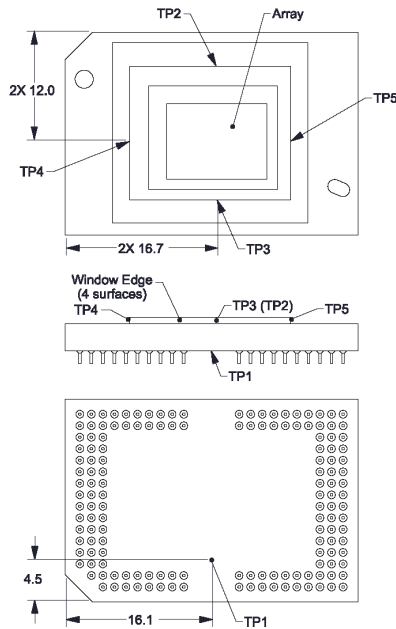

Figure 16. Thermal Test Point Location
Achieving optimal DMD performance requires proper management of the maximum DMD case temperature, the maximum temperature of any individual micromirror in the active array, the maximum temperature of the window aperture, and the temperature gradient between case temperature and the predicted micromirror array temperature. (see Figure 16).
The DMD is designed to conduct absorbed and dissipated heat to the back of the Series 450 package where it can be removed by an appropriate heat sink. The heat sink and cooling system must be capable of maintaining the package within the specified operational temperatures, refer to Figure 16. The total heat load on the DMD is typically driven by the incident light absorbed by the active area; although other contributions include light energy absorbed by the window aperture and electrical power dissipation of the array.
The temperature of the DMD case can be measured directly. For consistency, Thermal Test Point locations TP1 - TP5 are defined, as shown in Figure 16.
Micromirror array temperature cannot be measured directly; therefore it must be computed analytically from measurement points (Figure 16), the package thermal resistance, the electrical power, and the illumination heat load. The relationship between micromirror array temperature and the case temperature are provided by Equation 1 and Equation 2:
- T_{Ceramic} = Ceramic temperature (°C) (TC2 Location Figure 16)
- Q_{ILL} = Absorbed illumination energy (Watts) (2)